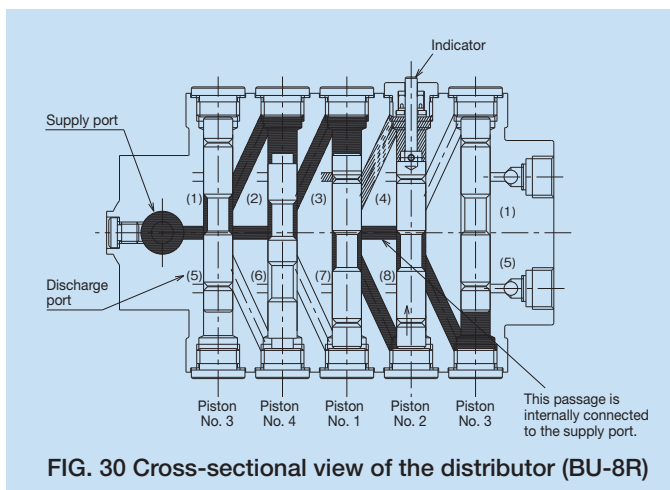
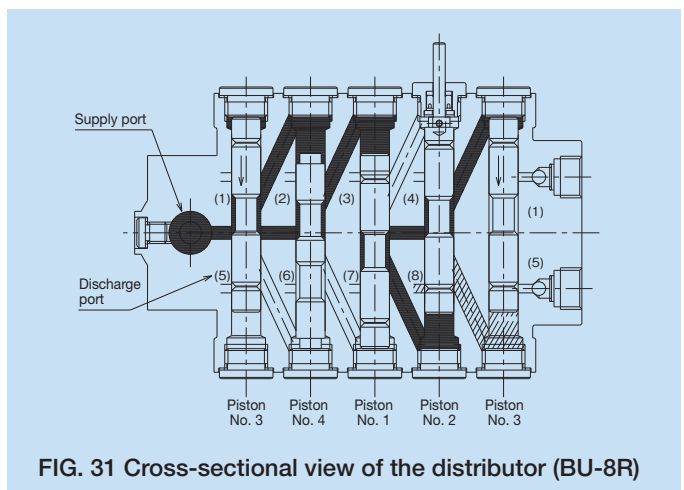

FIG. 30 Cross-sectional view of the distributor (BU-8R)
FIG. 31 Cross-sectional view of the distributor (BU-8R)
Operation of the BU-8R distributor (See FIG.30 and FIG.31.)
The compressed grease pushes up the piston No.4 at its bottom. This causes the grease in the upper part of the cylinder to go out from the discharge port (1). With this, a half cycle of lubrication is completed. (See FIG.31.) Next, this half cycle is reversed to complete the whole lubrication cycle. At the end of the whole lubrication cycle, the pistons are positioned as shown in FIG.30. (Basically BU-8R, BU-4R, BU-6R, and BU-12R behave similarly.)